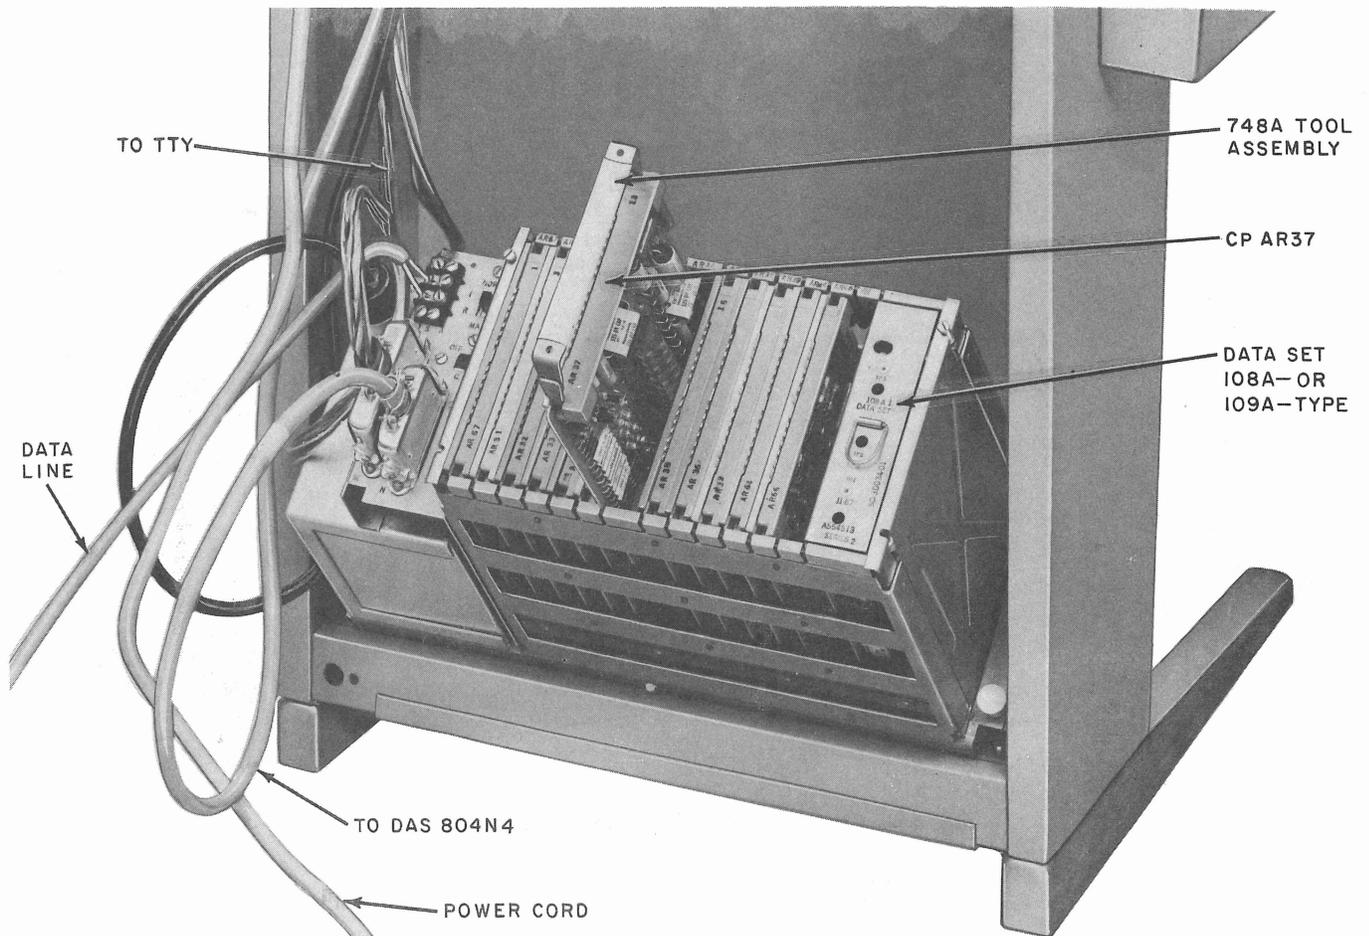

Fig. 3 — Model 33 ASR TTY, Rear View With Data Auxiliary Set 820B2 in the Maintenance Position
- (2) With both hands placed on the rear of the data auxiliary set, gently pull the top towards the rear of the station as shown in Fig. 3.